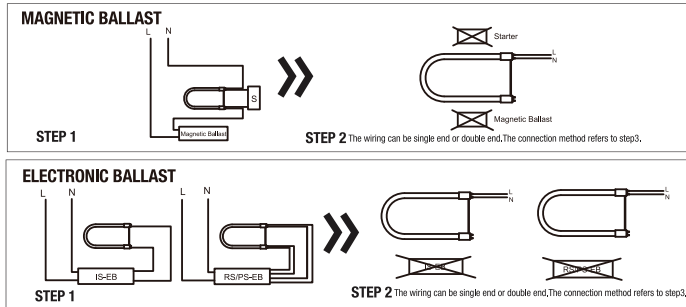

Fig:2
2) Remove the existing ballast and existing starter (if present) from the fixture(Fig.2).